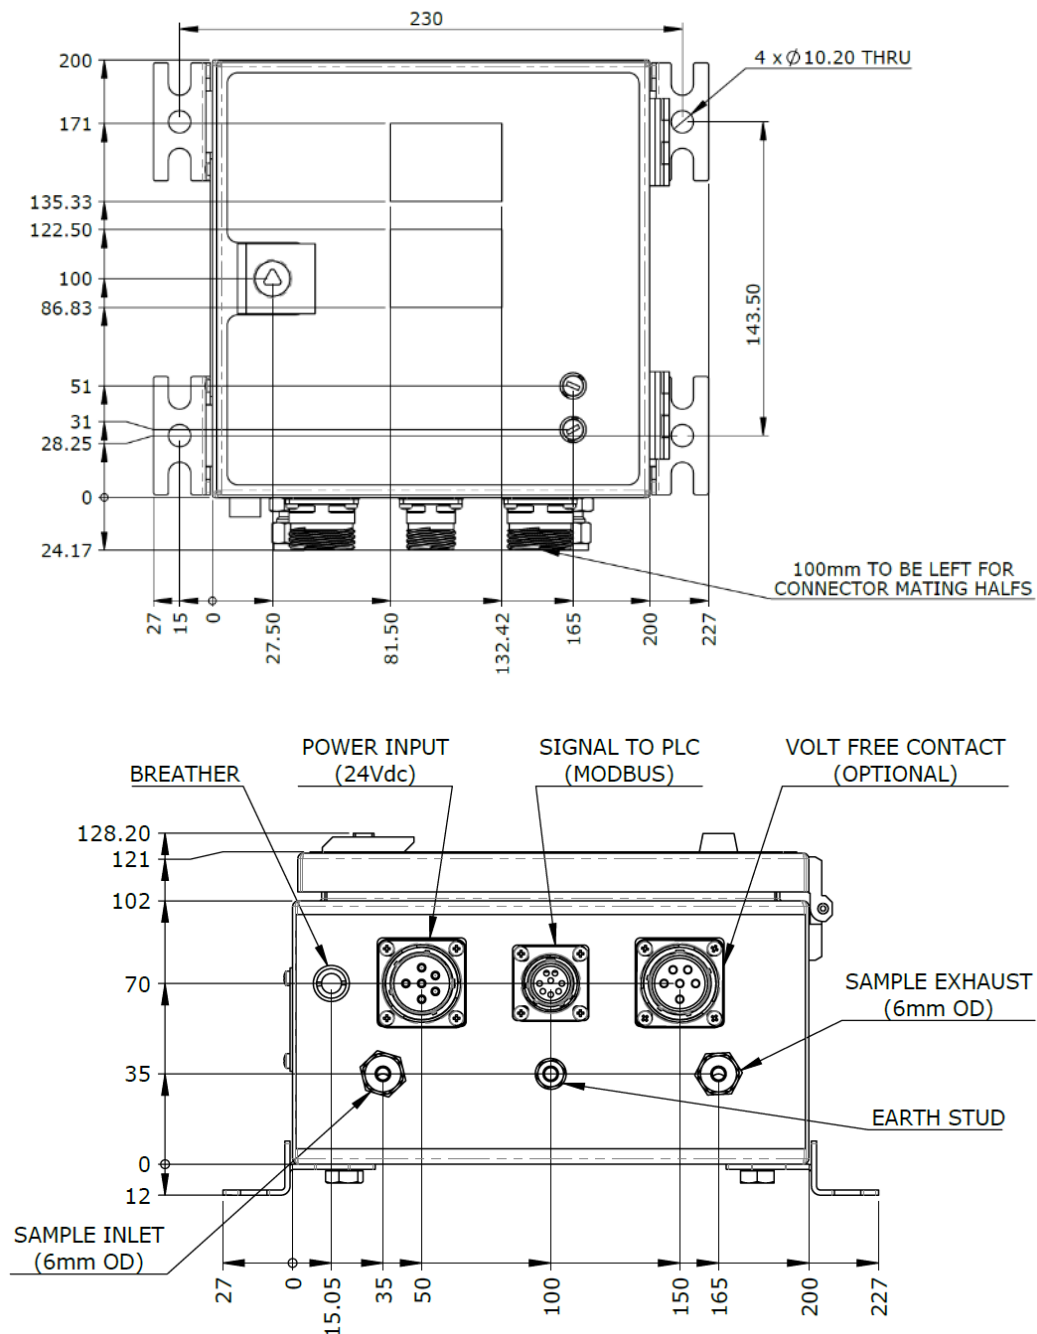

Figure 2 Dimensions
- The assembly consists of a 200mm x 200mm x 121mm (see **Figure 2** for full dimensions) mild steel enclosure (Painted) with mounting brackets and compression bulkheads for the gas inlet and outlets.